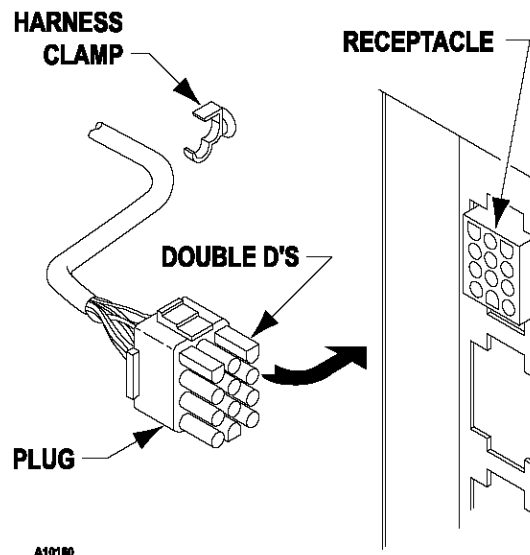

FIGURE 4. TRAY HARNESS
2. Locate the harness clamp on the right side wall. See FIGURE 4.
6. Locate the release lever on the left and right tray rails. See FIGURE 4. Swing the release levers all the way up to unlatch.